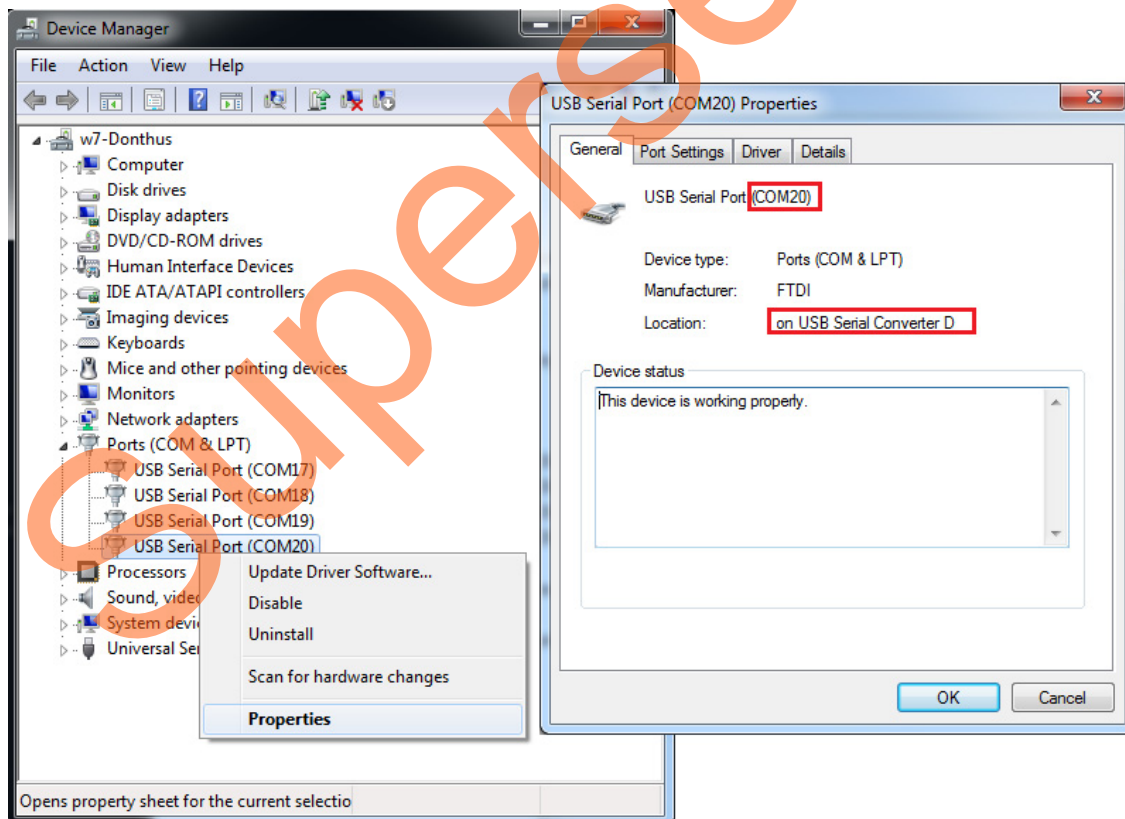

Figure 8 • USB to UART Bridge Drivers
1. Connect the FlashPro4 programmer to the J5 connector of SmartFusion2 SoC FPGA Evaluation Kit. Connect one end of the USB mini-B cable to the J18 connector provided on the SmartFusion2 SoC FPGA Evaluation Kit. Connect the other end of the USB cable to the host PC. Make sure that the USB to UART bridge drivers are automatically detected (can be verified in the Device Manager), as shown in Figure 8 on page 11.
Note: Copy the COM port number for serial port configuration. Ensure that the COM port location is specified as "on USB Serial Converter D", as shown in Figure 8.